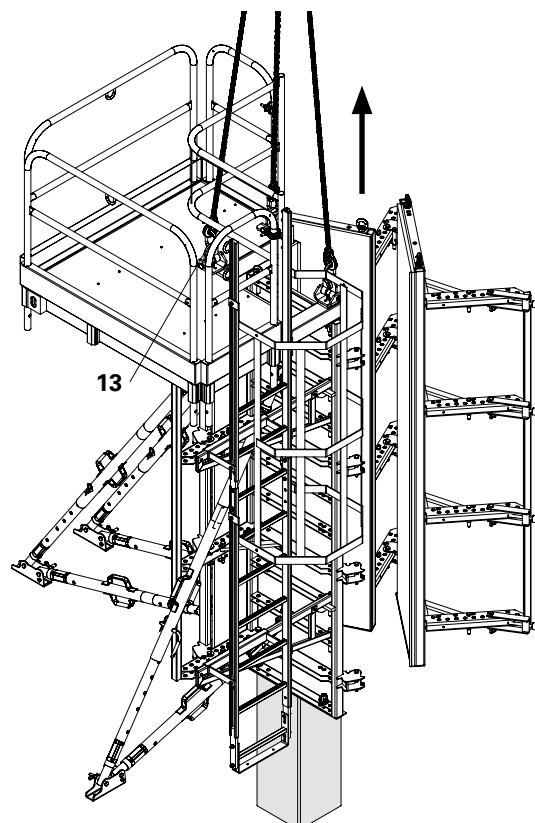

Fig. A5.02
1. Attach lifting gear to the 3 crane eyes on the concreting platform (13).
3. Position formwork for cleaning and secure. (Fig. A5.02)